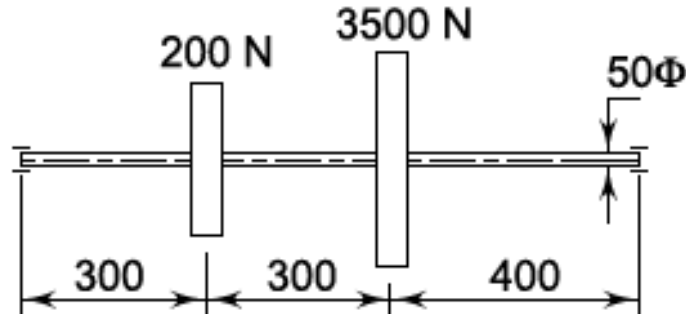

Figure 7.3
8. A steel shaft carrying two weights of 200 and 3500 N is shown in Fig.7.3 Neglect the weight of the shaft and estimate the first critical speed of the shaft. ( $E = 207000 \text{ N/mm}^2$ ).